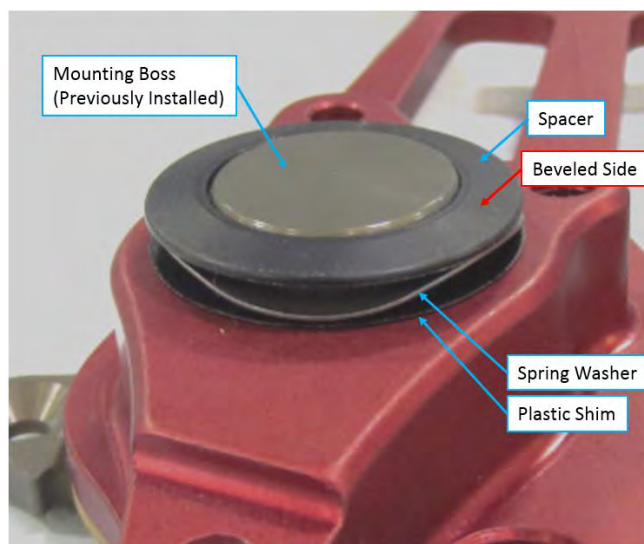

FIGURE 18-12
- e. Place a 98090A365 plastic shim on the mounting boss shaft, followed by a 9714K999 wave spring and ICA008147 spacer as shown in Figure 18-12. Orient the spacer with its beveled side facing away from the handle as shown.